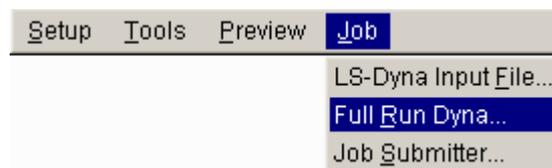

Figure 2.39 Job menu
1. Select **Job**→**Full Run Dyna...** in the menu bar. See Figure 2.39.